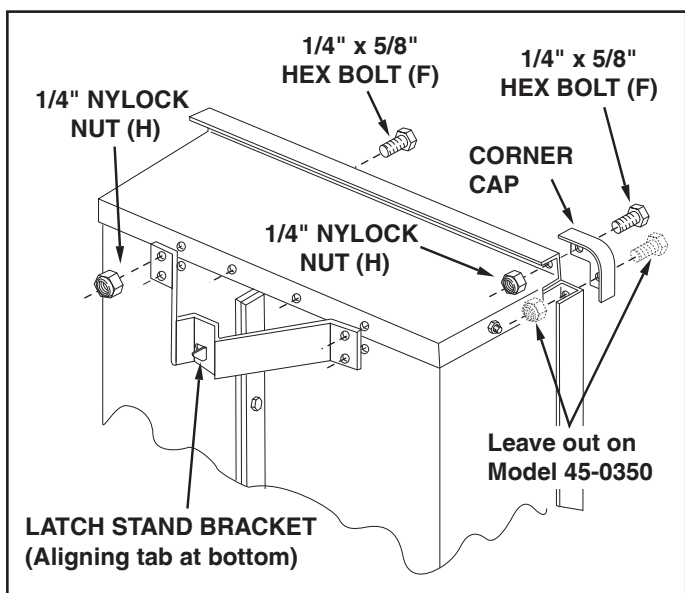

FIGURE 5
- Assemble the latch stand bracket to the cart so that the aligning tab is at the bottom of the bracket. Use four 1/4" x 5/8" hex bolts (F) and 1/4" nylock nuts (H). **Tighten**. See figure 5.
- Assemble a corner cap to each front corner using **one or two** 1/4" x 5/8" hex bolts (F) and 1/4" nylock nuts (H) per cap. **Leave out the rear bolt** if the cart has top rails (model 45-0350 only). **TIGHTEN**. See figure 5.